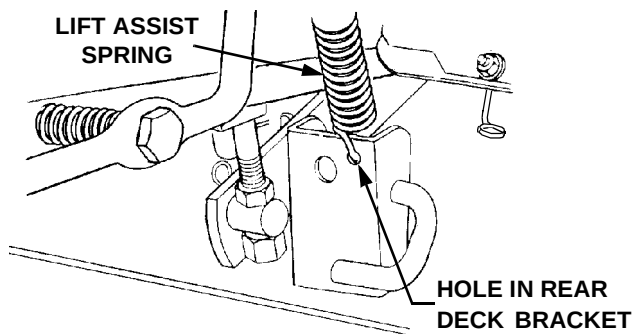

Figure 56
10. Install the lower hook of the lift assist spring into the hole in the right rear deck bracket (See Figure 56).